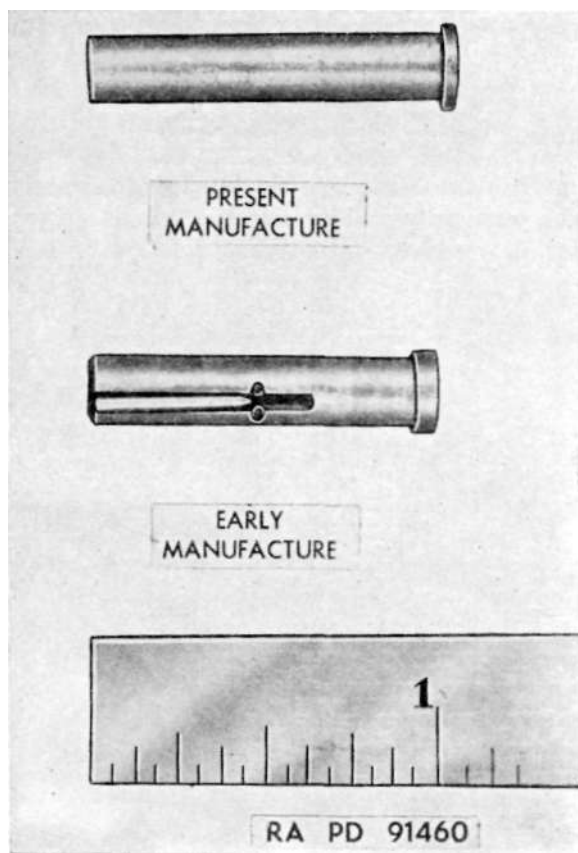

Figure 23. Trigger pins carbines, cal. .30, M1 and M1A1 — early and present manufacture.
b. TRIGGER HOUSING RETAINING PIN. Inspect retaining pin for wear, burrs, rust, and cracks at point where retaining spring seats in pin (early design). Inspect spring in pin (early design) (fig. 23) for positioning and looseness. Head of pin should seat flush with face of housing when in position, and end of pin retaining spring should grip lip of pinhole for retention. (Head of early design pin is seated in counterbore, and end of spring is in bevel of lip of pinhole. Pins of recent design have no spring.)